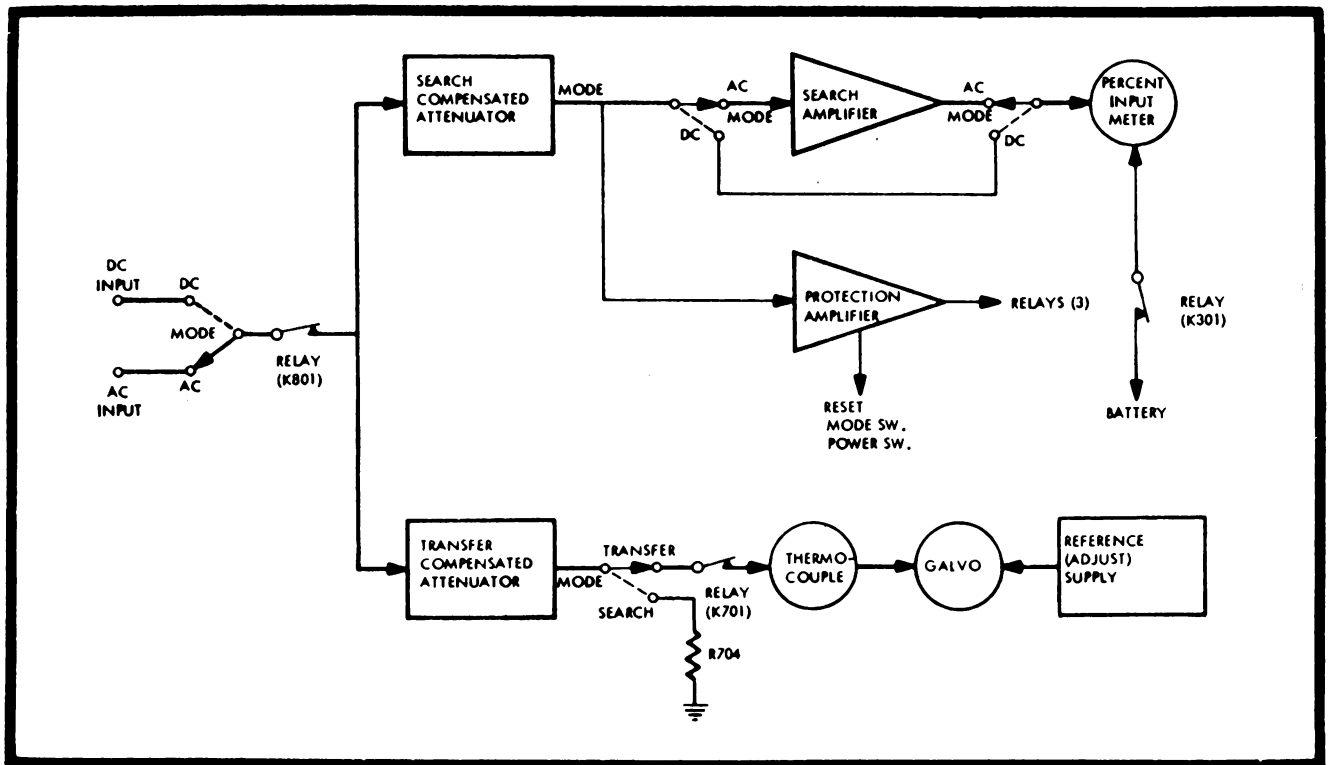

Figure 4-15. 540B block diagram.
**Fluke 540B.** Refer to Figure 4-15, Model 540B block diagram. With the mode switch in the AC SEARCH position, the input signal passes from the binding posts through the mode switch, through the first protection relay (K801), and to the search compensated attenuator. The output of the attenuator is connected to another section of